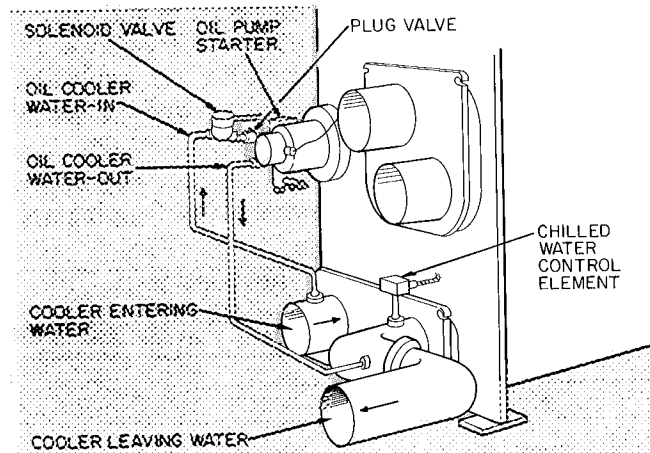

Fig. 10 — Chilled Water to Oil Cooler Piping (Typical)
Install Water Piping to Oil Cooler (Fig. 10)
A plug valve and solenoid valve subassembly (Fig. 10) has been disconnected from water-in side
If chilled water is used, pipe from entering chilled water line of machine cooler to entering (IN) connection on oil cooler. Water leaving oil cooler drains into leaving water line of machine cooler (Fig. 10). Locate water drain connection downstream from chilled water control element as shown in Fig. 10 to prevent any interference with control temperature sensing.